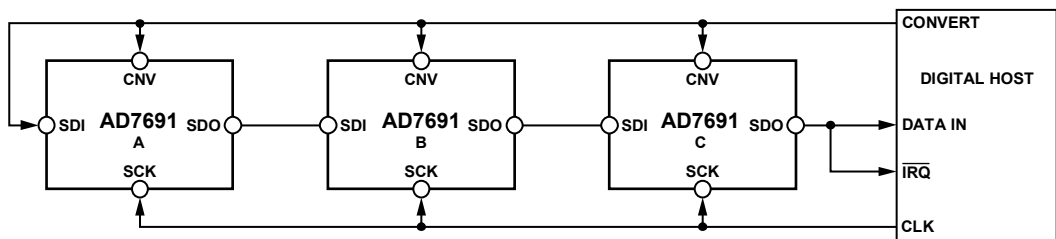
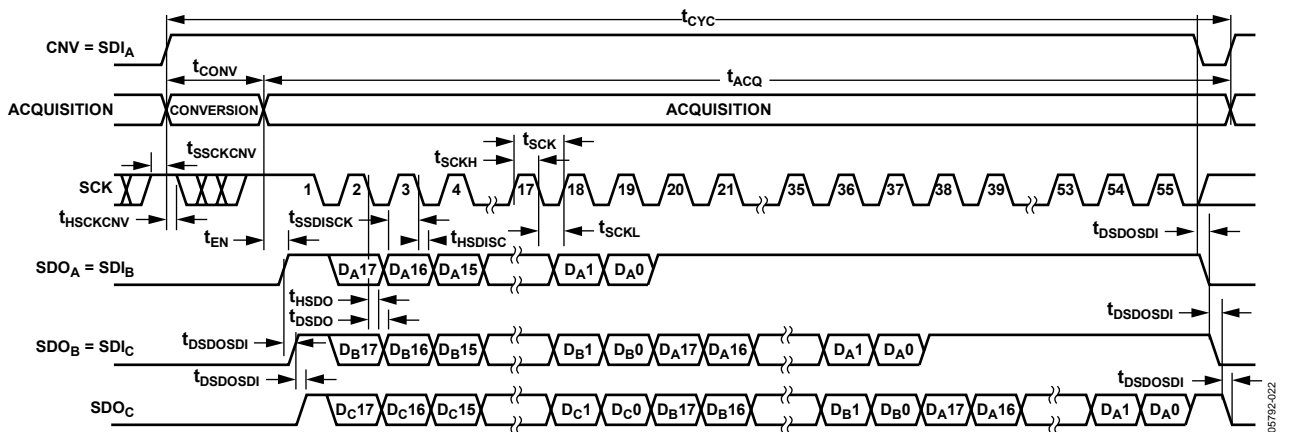

Figure 44. Chain Mode with Busy Indicator Connection Diagram
Figure 45. Chain Mode with Busy Indicator Serial Interface Timing
- In the chain mode if SCK is high during the CNV rising edge (see Figure 45).
A connection diagram example using three AD7691s is shown in Figure 44, and the corresponding timing is given in Figure 45.
subsequent data readback. When all ADCs in the chain have completed their conversions, the SDO pin of the ADC closest to the digital host (see the AD7691 ADC labeled C in Figure 44) is driven high. This transition on SDO can be used as a busy indicator to trigger the data readback controlled by the digital host. The AD7691 then enters the acquisition phase and powers down. The data bits stored in the internal shift register are clocked out, MSB first, by subsequent SCK falling edges. For each ADC, SDI feeds the input of the internal shift register and is clocked by the SCK falling edge. Each ADC in the chain outputs its data MSB first, and  $18 \times N + 1$  clocks are required to readback the N ADCs. Although the rising edge can be used to capture the data, a digital host using the SCK falling edge allows a faster reading rate and consequently more AD7691s in the chain, provided the digital host has an acceptable hold time.